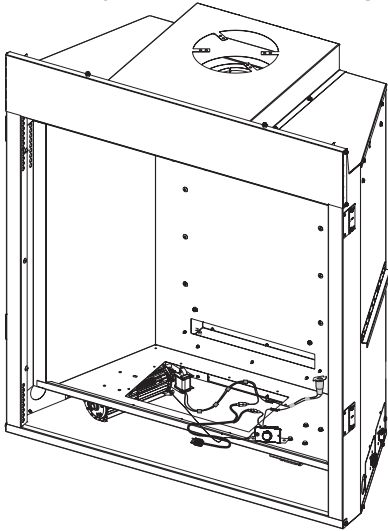

Figure 12
9. Install blower through firebox cutout. **See Figure 12.**